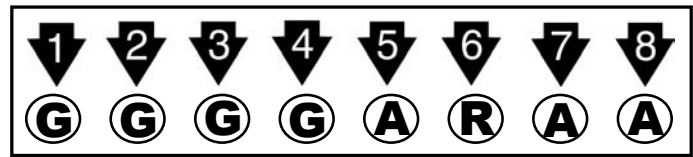

Figure 6 - Indicates system start-up.
Once the regulator is properly installed and connected to the rest of the charging system, it is ready to use. During operation, a bank of eight (8) color-coded LED lights will be illuminated to provide programming, mode, diagnostic and advisory information. At start-up, all eight LED lights will illuminate for approximately three seconds (Figure 6). Arrows indicate illuminated LEDs.